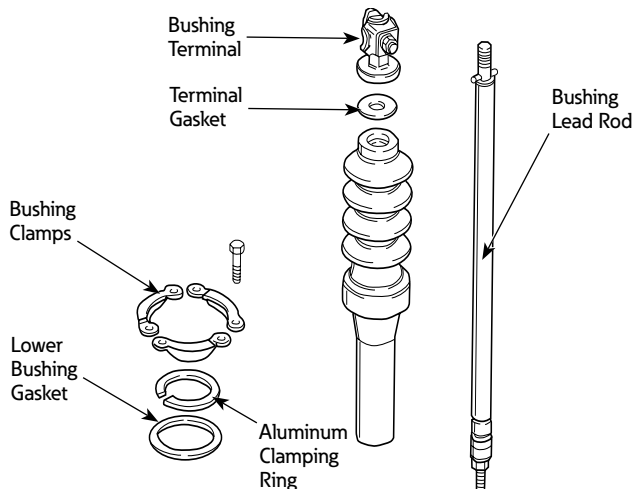

Figure 14. Bushing replacement (D).
2. Type D only (refer to Figure 14).